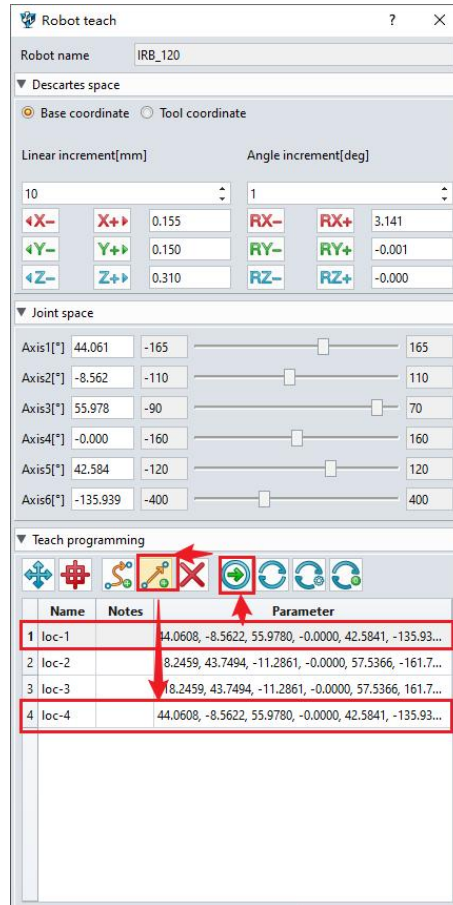

Figure 9-9: Marking of point 4
- In subsequent program editing, the same point cannot have both MOVJ and MOVL instructions, so add different Record point to the same position to avoid program instruction conflicts. (Figure 9-9)